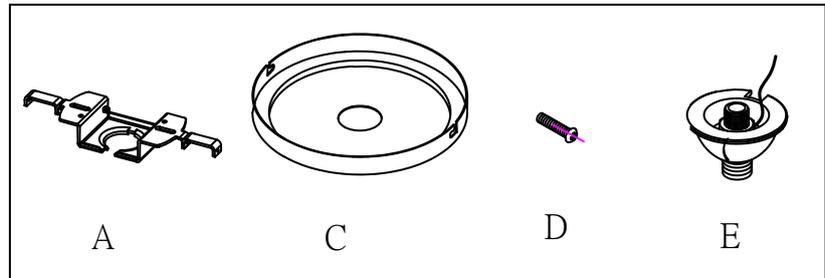

**Fig.2**
### SUGGESTED INSTALLATION (Fig. 2)
3. Attach the mounting plate (A) to the junction box using screws (B) as shown in Fig. 2.
4. Determine the desired hanging height and thread rods (F1, F2, F3) to fixture body (G). Place the canopy (C) over the rods (F) and thread the hanger ball (E) to rods (F). Please remove the nipple if installing with one 6" rod only.
5. Install the fixture into the mounting plate (A) by tilting at a slight angle so that the hanger ball (E) slips into the mounting plate (A) as shown. Align the notch in the hanger ball (E) to the tab on the mounting plate (A) to prevent the fixture from turning.